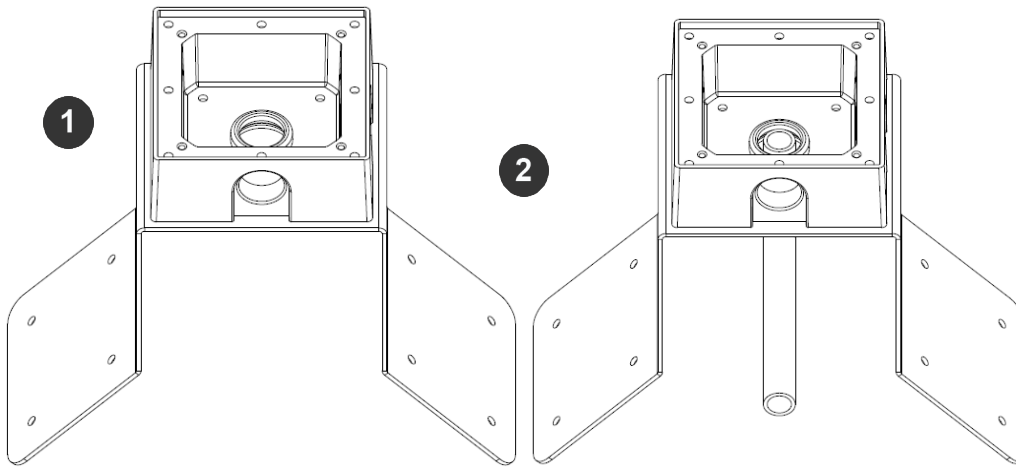

Figure 16: Attach conduit to the junction box adapter on the AV-SWMJB wall mount
3. Attach the Junction Box Adapter from the AV-SWMJB (Wall Mount Adapter) to the AV-CRMA (Corner Mount Adapter) (Figure 16).
4. Remove the conduit plug on the junction box adapter and connect $\frac{3}{4}$ " NPT conduit to the junction box adapter (Figure 16).